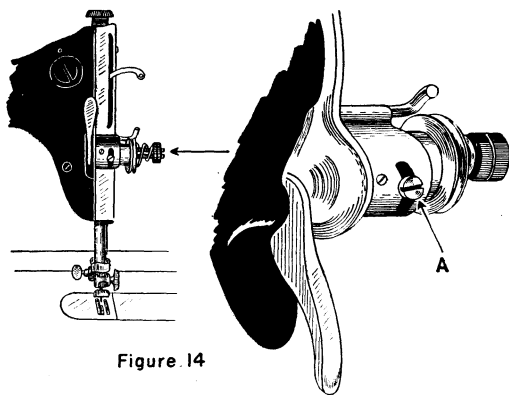

Figure 14
1. Turn the handwheel slowly by hand and watch the action of the thread-take-up spring as the needle enters the cloth. The spring should release the tension on the thread—just as the eye of the needle is about to enter the cloth. If the spring comes to rest too soon or after the needle enters the cloth, locate and loosen the screw *A* that fastens the take-up-spring holder (fig. 14). Now rotate the holder until the correct adjustment is made and then tighten screw *A*. Since different machines adjust differently, refer to your instruction book or study the machine carefully until you determine where the adjusting screw is located and how to make the adjustment. It may not be possible to make this adjustment on some types of machines.